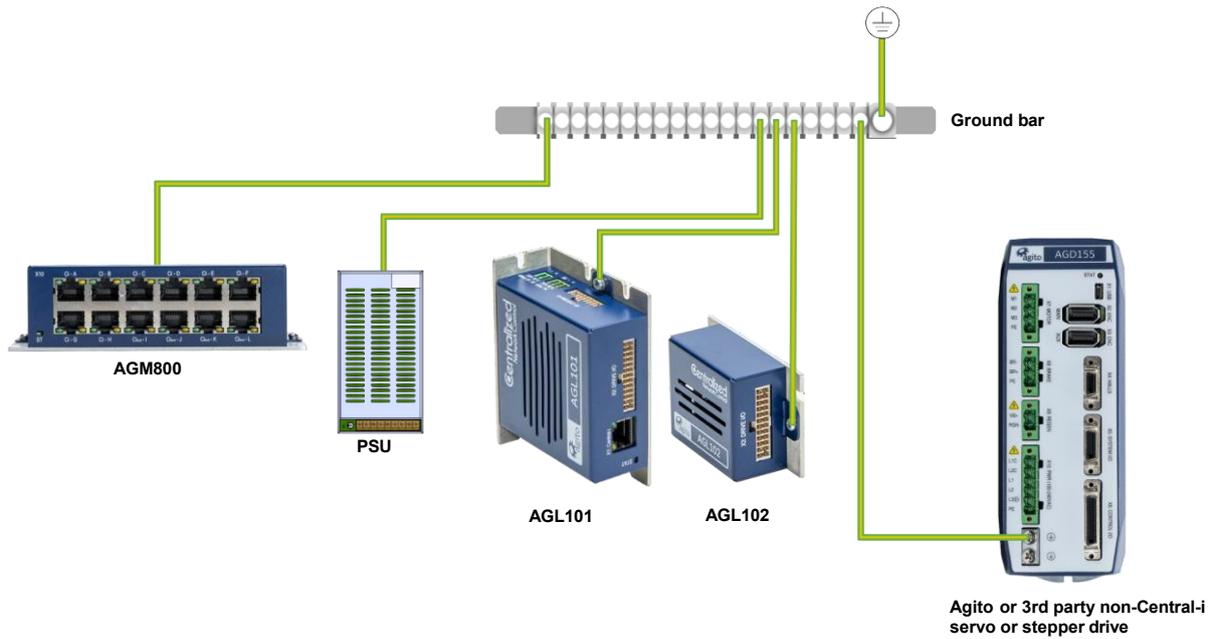

Figure 7. System Grounding
- The AGL10x must be connected to protective earth (PE) and connected to the building's ground. PE is protected with an earth-leakage circuit breaker (ELCB); hence it is safe to touch. Refer to Figure 7.